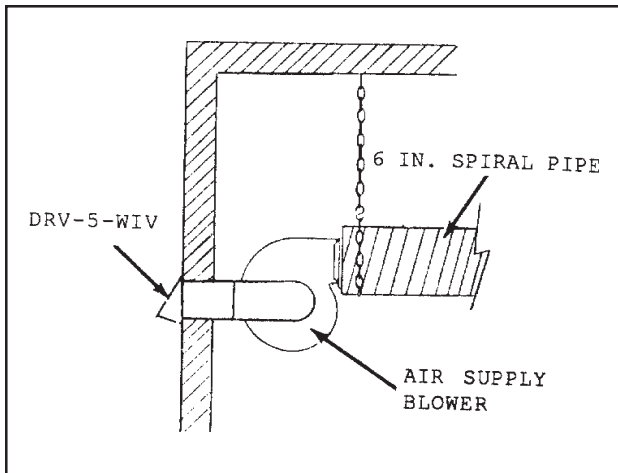

Figure 2.22
- To maintain a 1" burner vacuum, air inlet dampers are required to adjust the incoming air (4" damper plates are recommended). These dampers can be located in the tees and/or a small section of 4" tube installed between the reducer fittings and the flex hoses (see Figure 2.22).